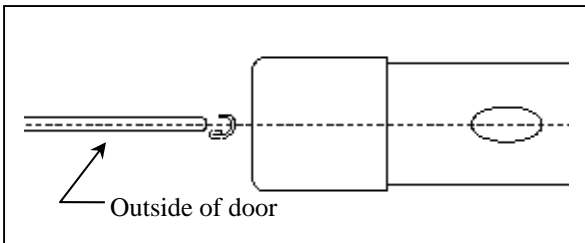

Fig. 1-5
**⚠ NOTE:** BEFORE PROCEEDING IT IS EXTREMELY IMPORTANT TO PROPERLY ALIGN THE DOOR EDGE, DOOR EDGE GUARD CHANNEL AND Mallet AS SHOWN IN FIG. 1-5. Mallet TECHNIQUE IS VITAL FOR PROPER INSTALLATION: